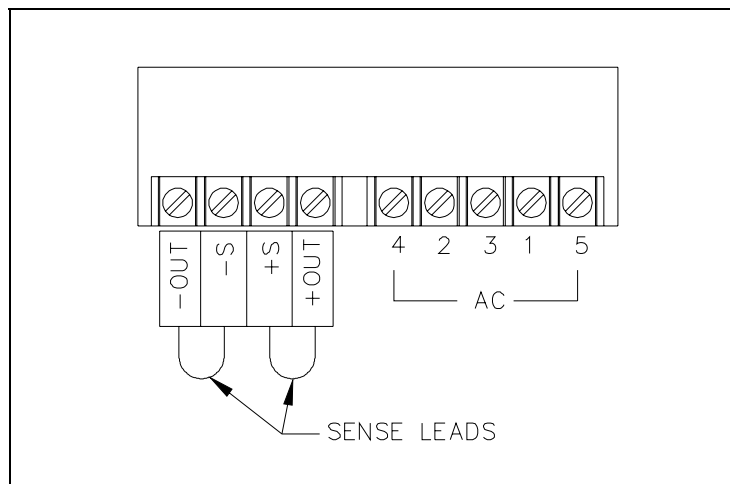

Figure 6. Case C
**NOTE:** As an alternative, the Model 495-001 Interface Cabinet’s power supply can be wired for other input voltages, including a 240 V ac input. Refer to Table 1 and Figure 6.